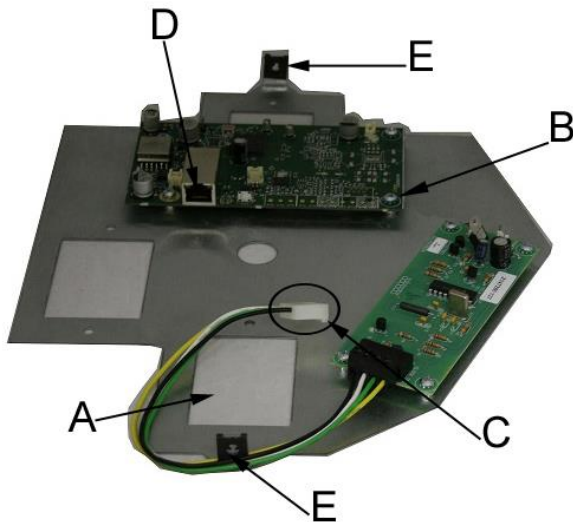

Figure 3. Mounting/Connections
Connect the attached wire assembly from the Lay-in Speaker to the Speaker screw connections on the clock circuit board. (Figure 3)
The VIP-4122-D44-IC has one RJ-45 network connector on the clock circuit board (D) in Figure 3. Connect a standard Ethernet patch cable from the VIP-4122-D44-IC into an Ethernet switch. If a PoE switch is not available, a PoE mid-span injector may be used to supply power to the clock and speaker.